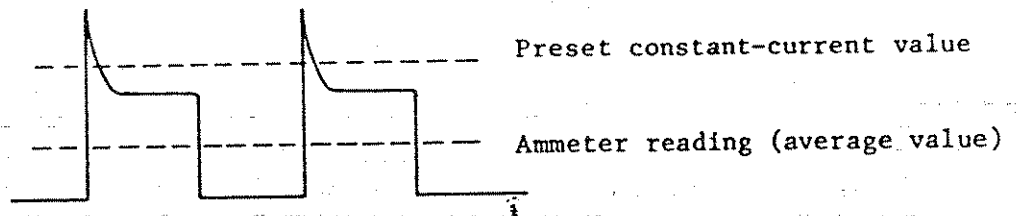

Figure 2-3. Load current with peaks
1. Change connections of the main power transformer as shown in Figure 2-3.